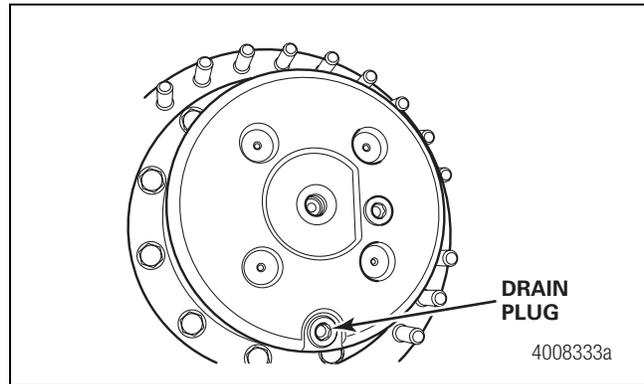

Figure 3.1
5. Place a drain pan under the hub drain plug. Rotate the wheel end so the drain plug is at its lowest position. Remove the drain plug and allow the hub oil to drain completely from the wheel end. Figure 3.1.